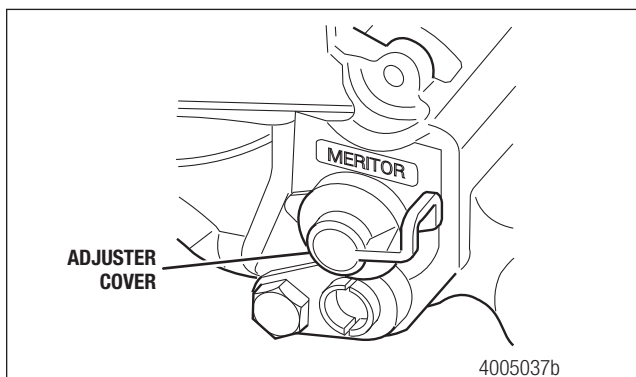

Figure 28
- a. Locate the adjuster cover next to the long slide pin and remove it. Figure 28.